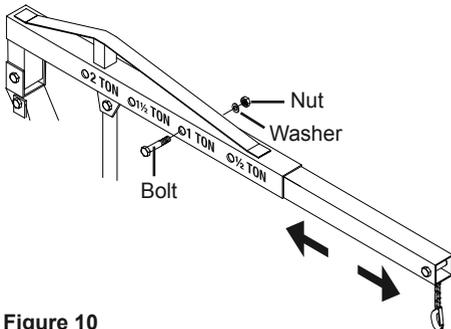

Figure 10
3. Secure into place by inserting the Bolt through all aligned holes and tightening in place with the Washer and Nut. See Figure 10.